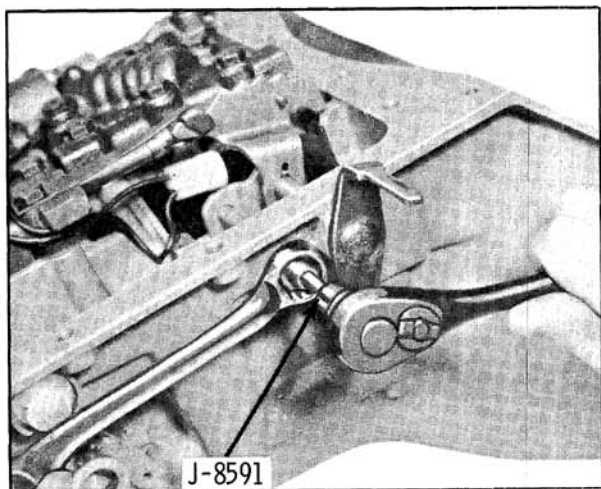

Fig. 6-358 Low Band Adjusting Screw
1. Release tension on low band adjusting screw retaining nut. Release tension on low band by turning adjusting screw in a counterclockwise direction. Use a 7/32" Allen Wrench. (Fig. 6-358)